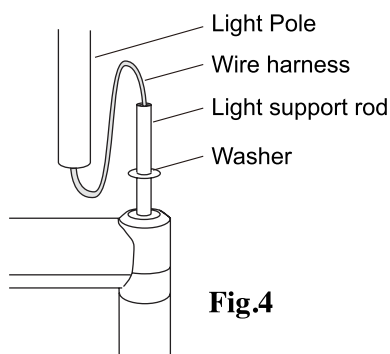

Fig.4
(4) Feed the light assembly wire harness through the light support rod (Fig.4) and pull the end of the harness from side of the cuspidor post as below (Fig.5).